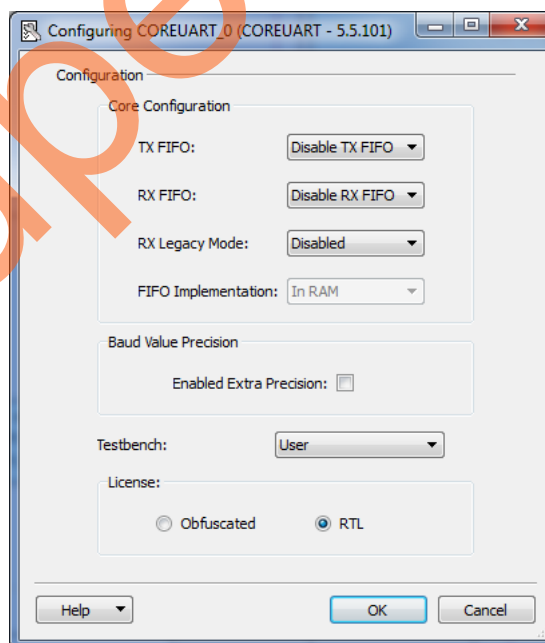

Figure 31 • COREUART Settings
2. After dragging the **COREUART** onto the canvas, double-click the **COREUART_0** module and set the parameters, as shown in Figure 31.